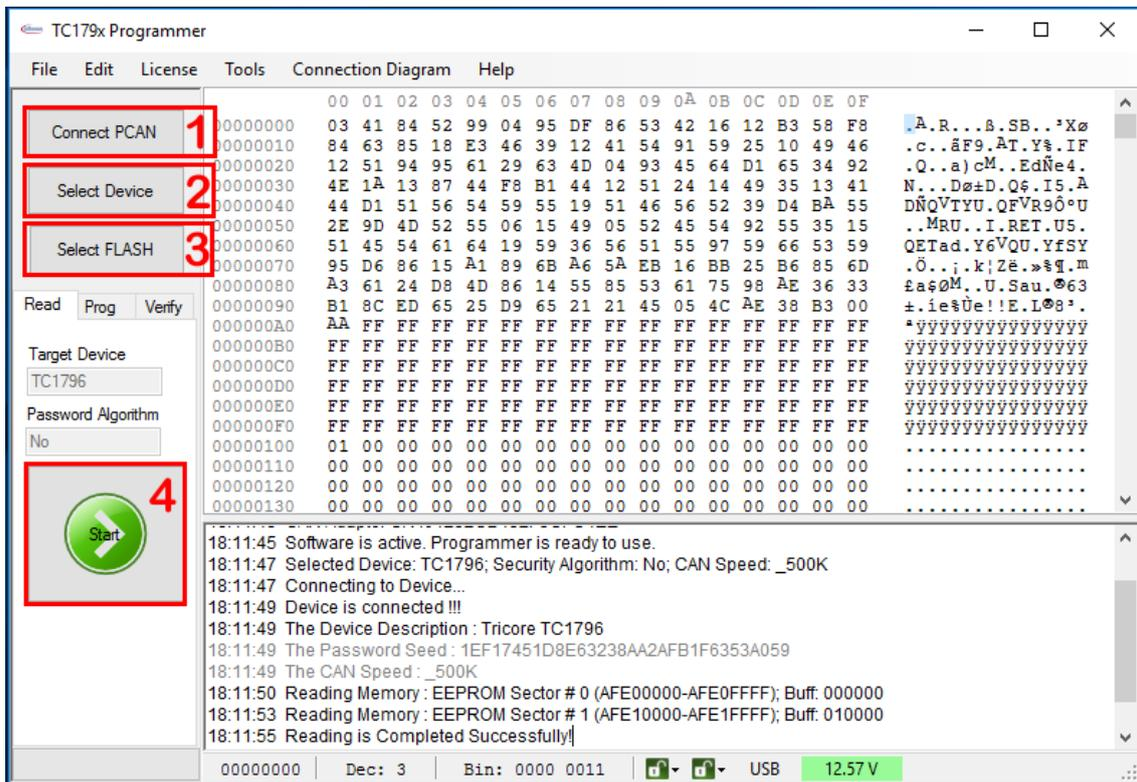

Figure 26 TC179x-Programmer reading sequence.
- Press "Connect PCAN" button on TC179x-Programmer software (Figure 26)